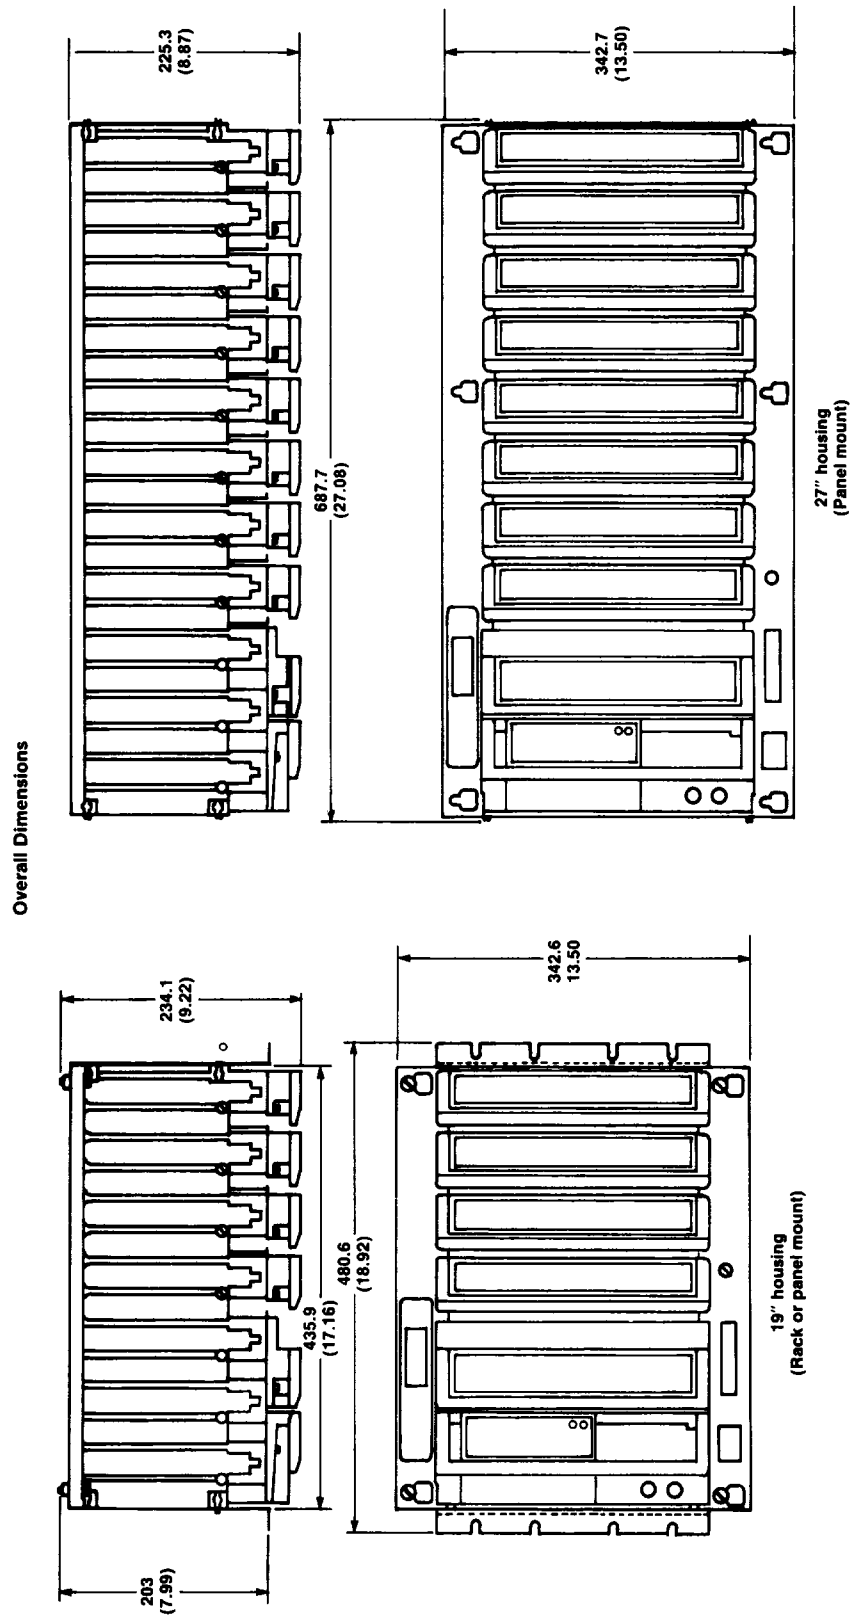

Figure 3-1 H819 and H827 Housing Dimensions
1. Drill holes for a ¼ inch bolt in the mounting surface. Figure 3-1 shows dimensions for the 19 inch and 27 inch housings.